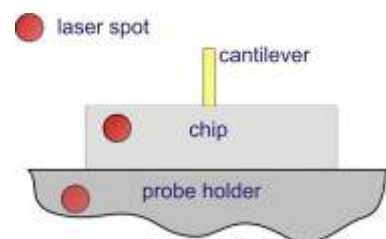

Fig. 2-44
- c. No image at all. This means that the laser beam falls onto the chip or the probe holder (Fig. 2-44) and can not pass through the measuring head.